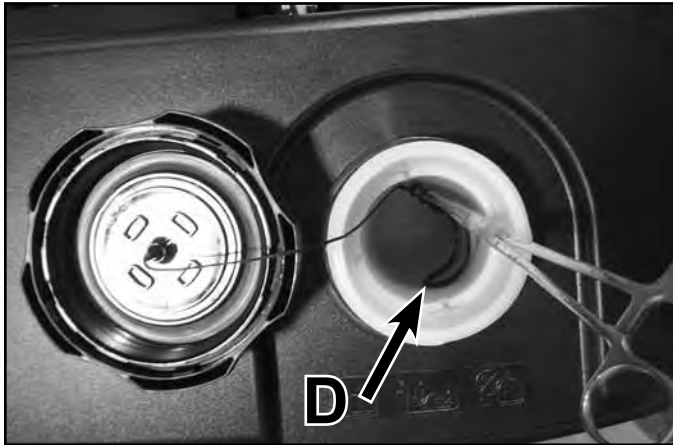

Fig. 011
2. Unscrew fuel cap. With a clean, long, needle nose pliers, reach into fuel tank and grab fuel cap tether base (D). Pull upward and flex tether base to remove fuel cap from fuel tank assembly (Fig. 011).